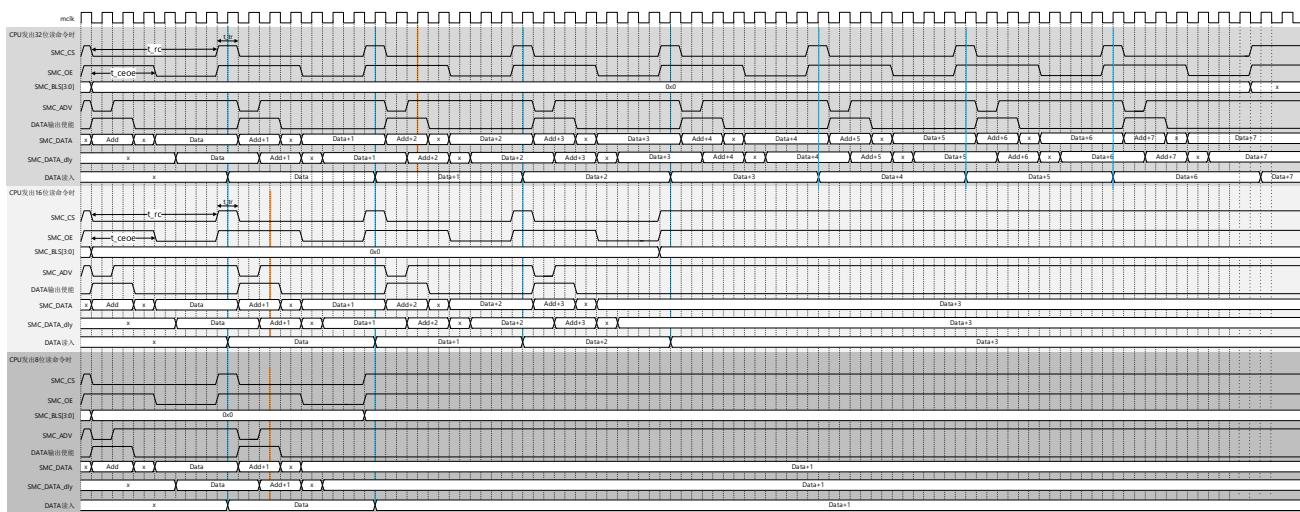

Figure 40-12 Address data line multiplexing single read operation basic timing (asynchronous mode (RSTN=0) & 16-bit width (MW=01))
b) Table 40-8 and Figure 40-12 This is a basic timing chart and setting example of a single read operation with multiplexing of address and data lines.